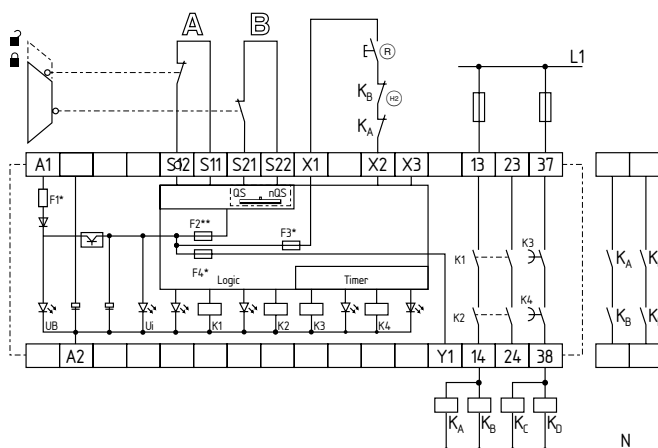

Fig. 8:
**Dual-channel control, shown for a guard door monitor; with two contacts A and B, where at least one is a positive break contact; with external reset button (R) (see Fig. 8)**